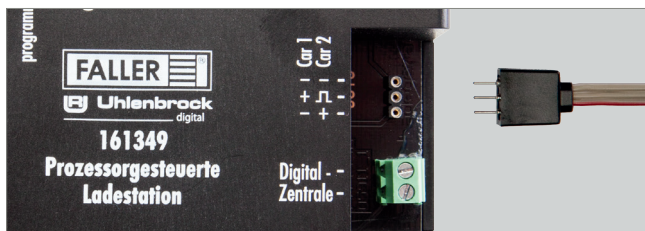

Fig. 5: Connecting the charging cable to the charging unit
- ▶ Insert the plug located at one end of the charging cable into the socket of the charging unit, see Fig. 5.